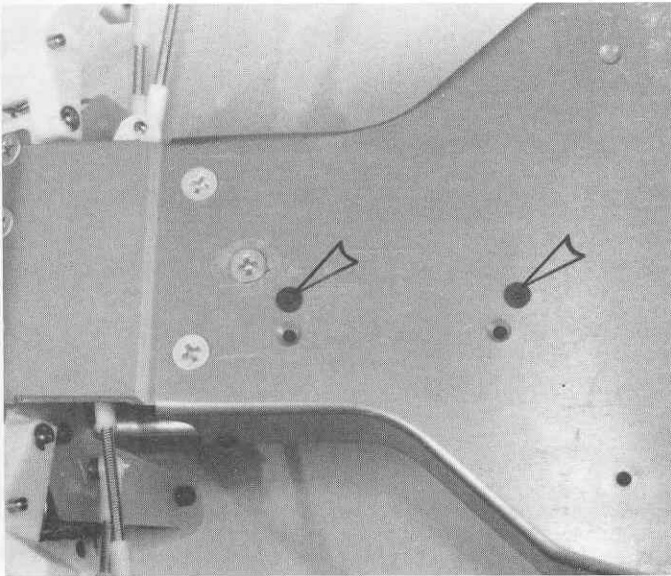

Fig. 144
□ **Fig. 144** Medium sized servos would include Futaba S31, S131, S28; Airtronic 94461; and Novak NES1A. Follow the same procedure as for the small servo but use the wider spaced mounting holes in the chassis.